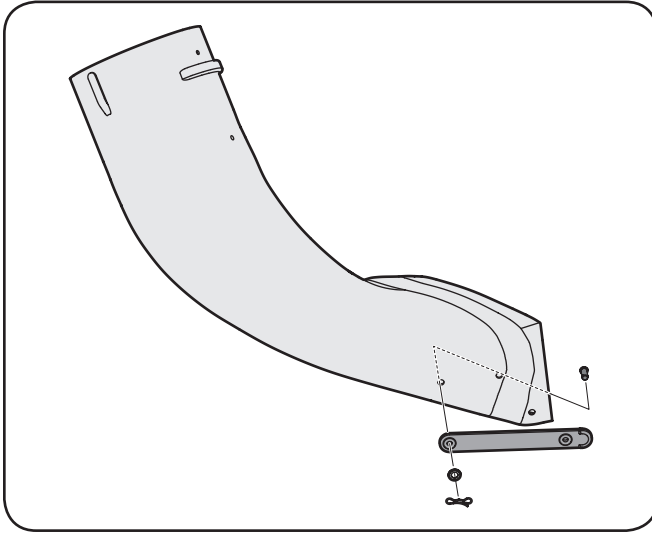

Figure 4-18
9. Install the rubber chute strap (723-04008A) onto the chute elbow using clevis pin (711-05063), washer (736-0204) and Bow-tie cotter pin (714-04040) from hardware pack 689-00091. See Figure 4-18.